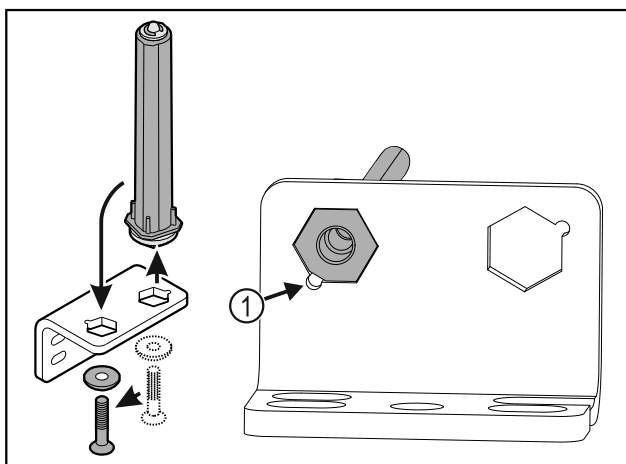

Fig. 57
- Make sure the pin chamfer Fig. 57 (1) faces the round hole when you put it in.